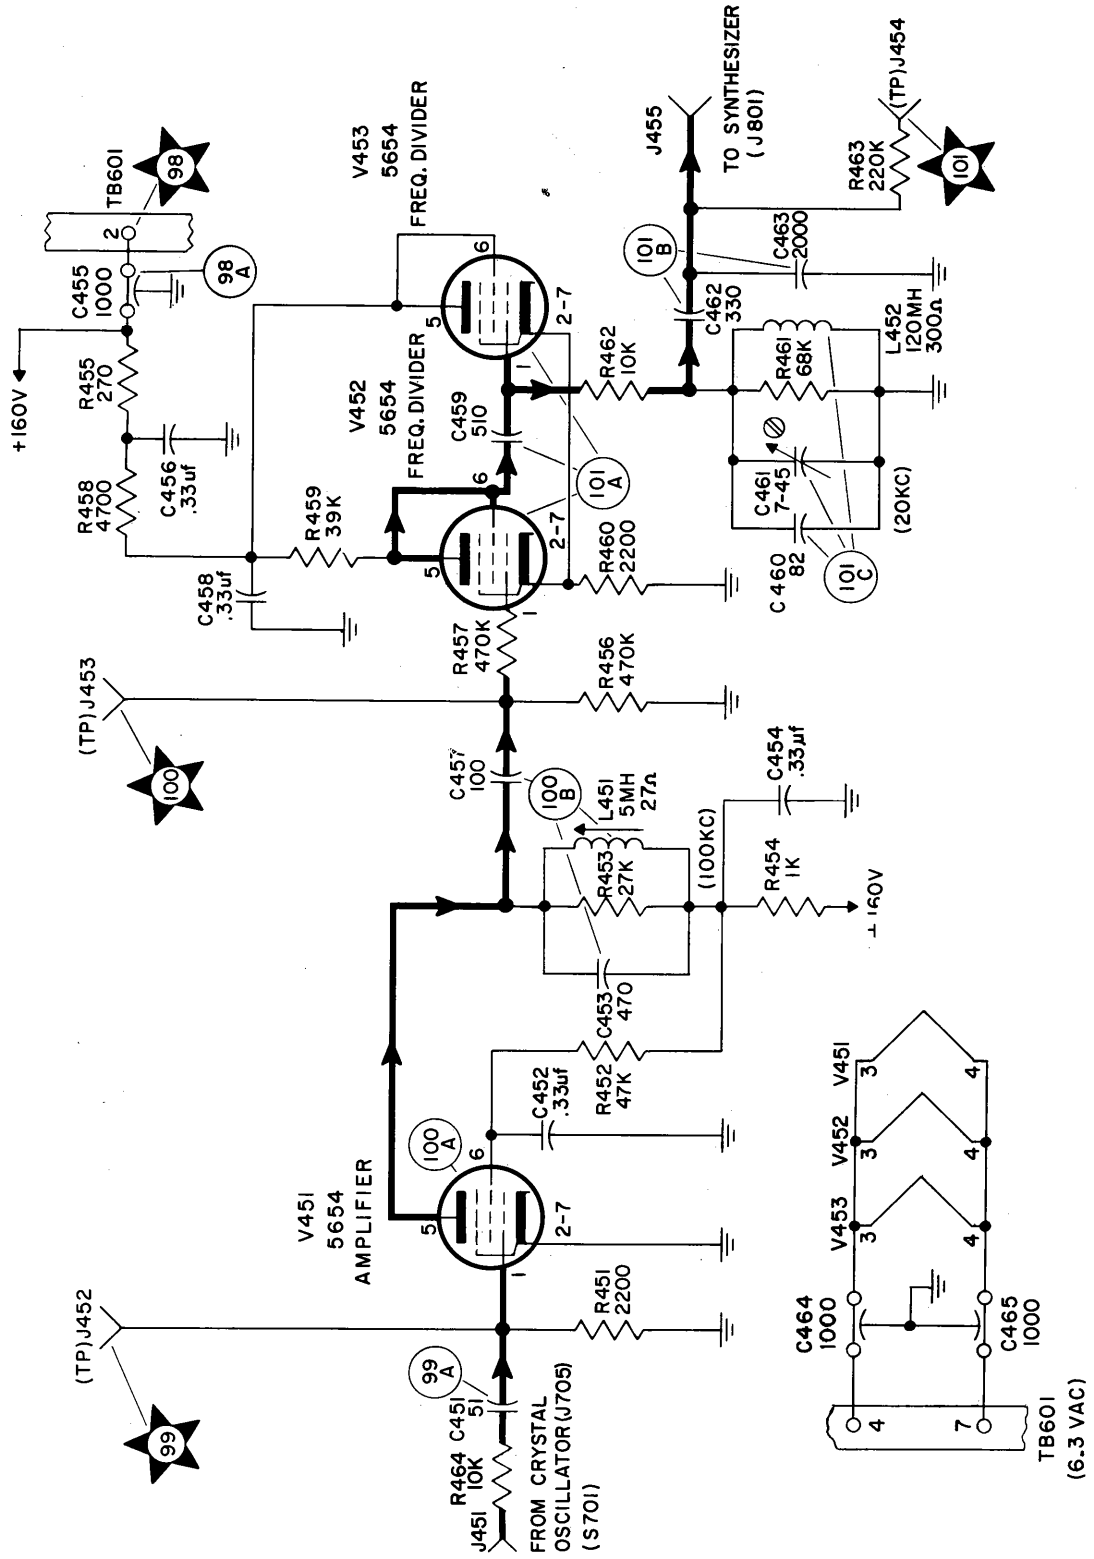
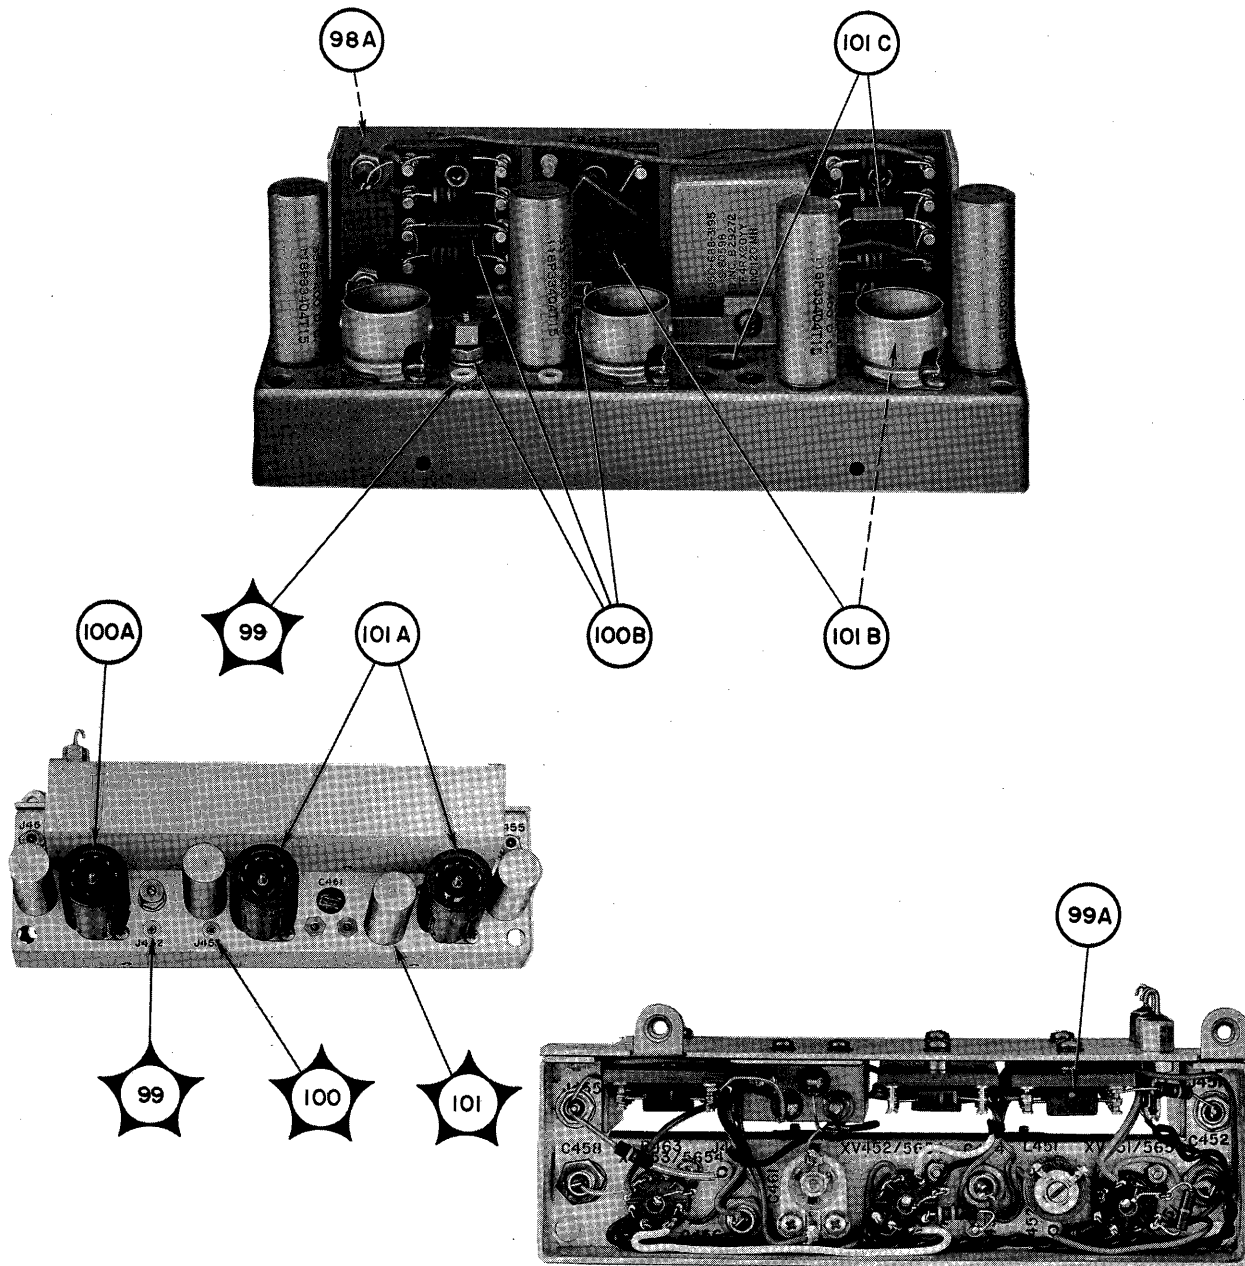

Figure 5-57. Frequency Divider, Functional Schematic Diagram
Figure 5-59. Frequency Divider, Location of Test Points
(See figure 5-57.)
*f. FREQUENCY DIVIDER TROUBLE-SHOOTING CHART.*—Table 5-15 lists the steps for troubleshooting the frequency divider. Perform them in the order given. Figure 5-57 is the functional schematic diagram of the frequency divider, and figure 5-59 shows the location of test points. Table 5-66 gives voltage and resistance values at the socket pins of tubes V451, V452, and V453. To reach these, take the frequency divider subassembly out of the drawer and remove the cover plate from the bottom. Refer to Section 6 for removal instructions.